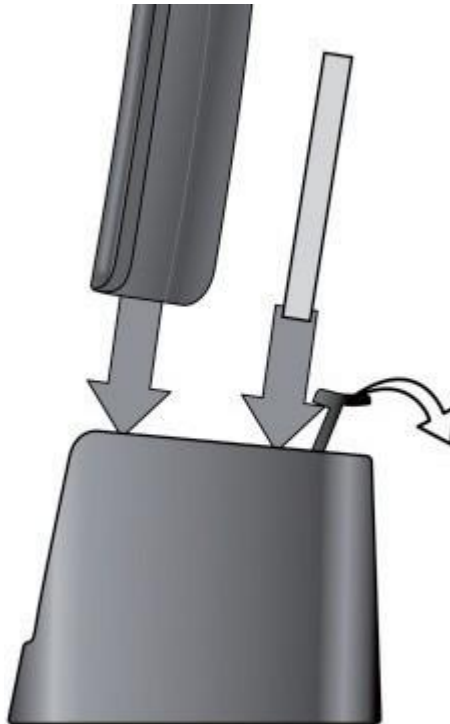

Figure 2-178 Inserting Handset into the Charger
4. Place the spare battery (if available) in the back section of the charger; the BATTERY STATUS LED should turn on. (Pull the battery latch back slightly to fit the battery in the slot.) See Figure 2-178 Inserting Handset into the Charger.